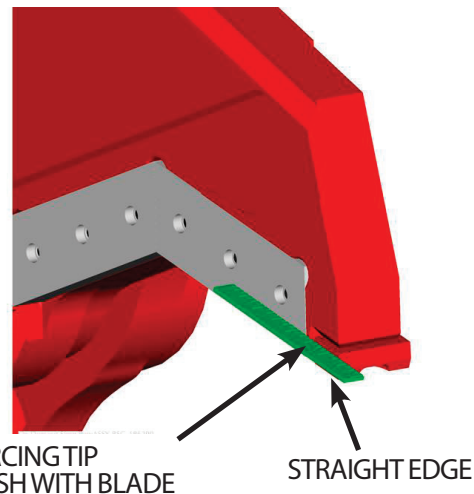

FIGURE 5-26
1. Use a straight edge to determine how much build-up is needed along the sides of the piercing tip. Place the straightedge along the cutting blades and extend it beyond the tip (see Figure 5-26). The tip should be flush with the blades.